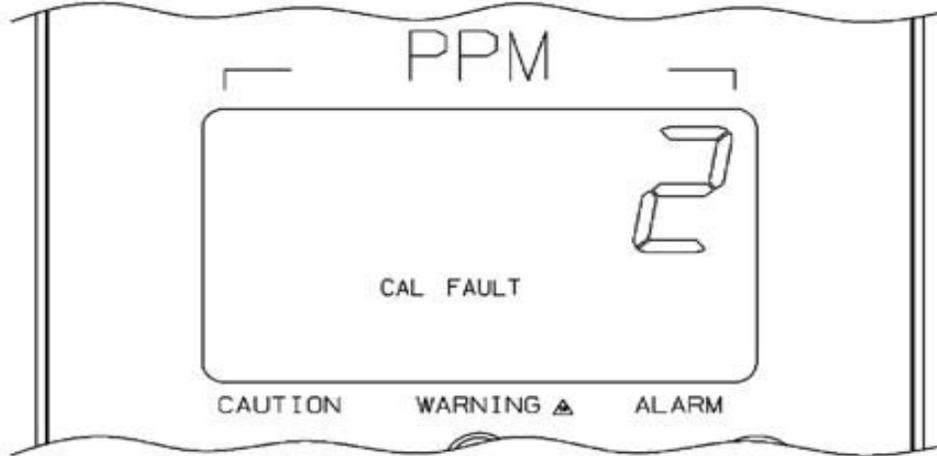

Fig. 44 CAL FAULT Reading
(6) Re-apply power to the Toxgard II Monitor.
(7) Perform the **INITIAL** Calibration Procedure as outlined in the Toxgard II Monitor Calibrator or Toxgard II Monitor Controller instruction manual. This procedure differs slightly from a standard calibration procedure. Use of the **INITIAL** calibration procedure upon installation of a new sensor ensures the Toxgard II Monitor will perform a successful calibration. Failure to do so may result in a **CAL FAULT** reading (Fig. 44 "CAL FAULT Reading").